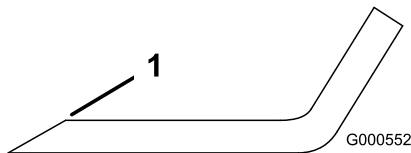

Figure 60
- Use a file to sharpen the cutting edge at both ends of the blade (Figure 60).
Note: If the blade is not balanced, file some metal off the end of the sail area only (Figure 60).